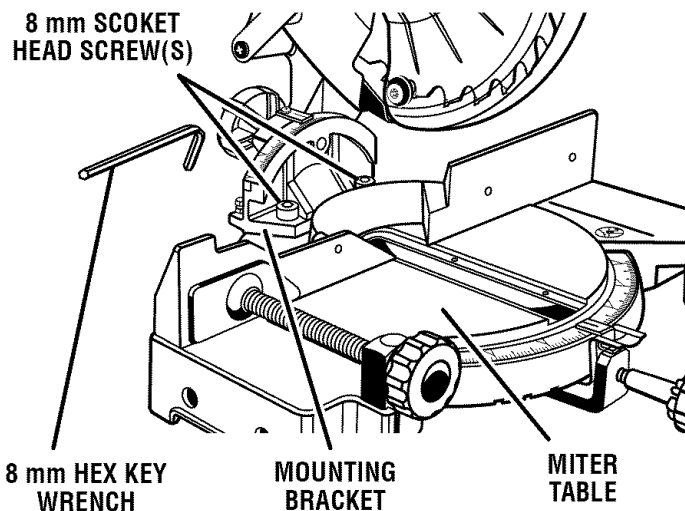

Fig. 22
- Using a 8 mm hex key, loosen the socket head screws that secure the mounting bracket to the miter table. See Figure 22.